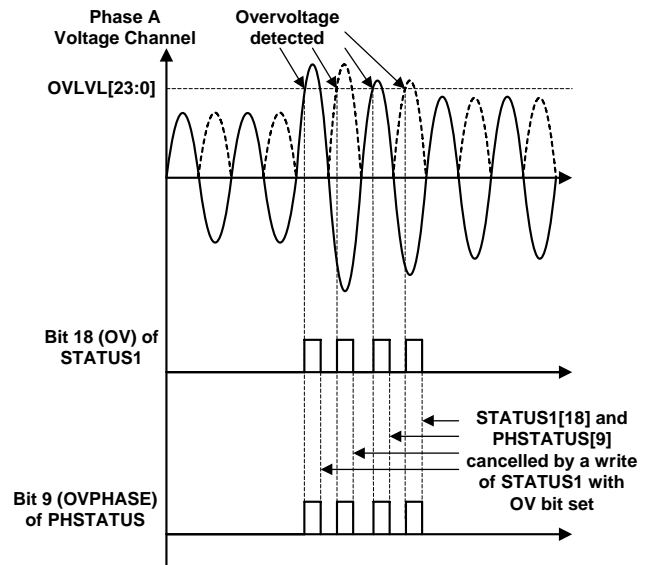

Figure 36. ADE7854 Overvoltage Detection
The ADE7854 detects when the instantaneous absolute value measured on the voltage and current channels becomes greater than thresholds set in OVLVL[23:0] and OILVL[23:0] 24-bit unsigned registers. If bit 18 (OV) in MASK1[31:0] register is set,  $\overline{\text{IRQ1}}$  interrupt pin is driven low in case of an overvoltage event. There are two status flags set when  $\overline{\text{IRQ1}}$  interrupt pin is driven low: bit 18 (OV) in STATUS1[31:0] register and one of bits 11, 10, 9 (OVPHASE[2:0]) in PHSTATUS[15:0] register identifying the phase that generated the overvoltage. The status bit 18 (OV) in STATUS1[31:0] register and all bits 11, 10, 9 (OVPHASE[2:0]) in PHSTATUS[15:0] register are cleared and  $\overline{\text{IRQ1}}$  pin is set back high by writing STATUS1[31:0] register with the status bit set to 1. Figure 36 presents overvoltage detection in phase A voltage. Whenever the absolute instantaneous value of the voltage goes above the threshold from OVLVL[23:0] register, bit 18 (OV) in STATUS1[31:0] and bit 9 (OVPHASE[0]) in PHSTATUS[15:0] registers are set to 1. The bit 18 (OV) of STATUS1[31:0] register and bit 9 (OVPHASE[0]) in PHSTATUS[15:0] register are cancelled when STATUS1 register is written with bit 18 (OV) set to 1.